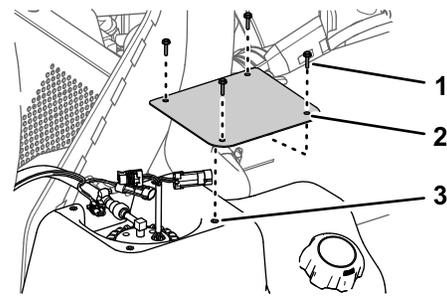

Figure 79
2. At the fuel tank, remove the 4 screws (#10 x 3/4 inch) that secure the cover to the top of the fuel tank, and remove the cover (Figure 79).